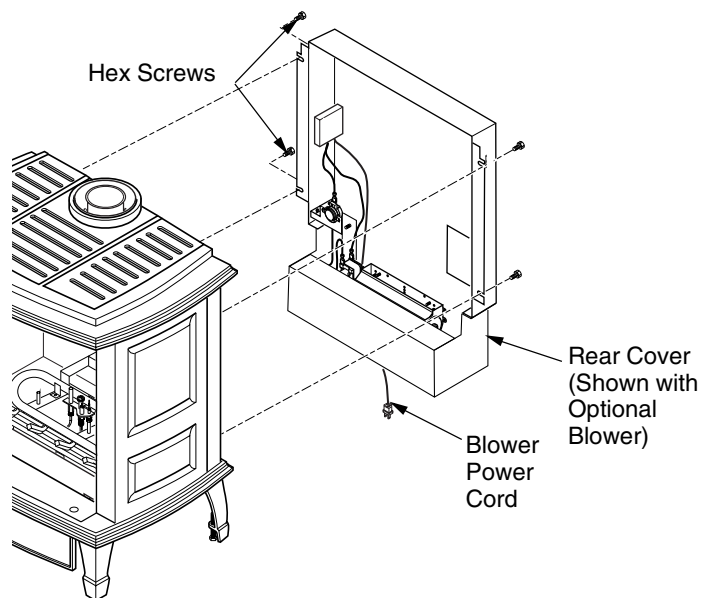

Figure 19 - Installing Rear Cover (Shown with Optional Blower Accessory)
2. Using hex screws provided, attach rear cover to back of stove body. See Figure 19. **IMPORTANT:** This rear cover must be securely in place before venting pipes are installed.